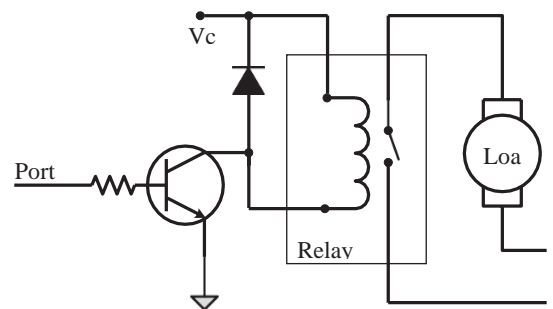

Fig. 2.22 Transistor based Relay driving circuit
- The Relay is normally controlled using a relay driver circuit connected to the port pin of the processor/ controller. A transistor is used for building the relay driver circuit. Figure 2.22 illustrates the same.